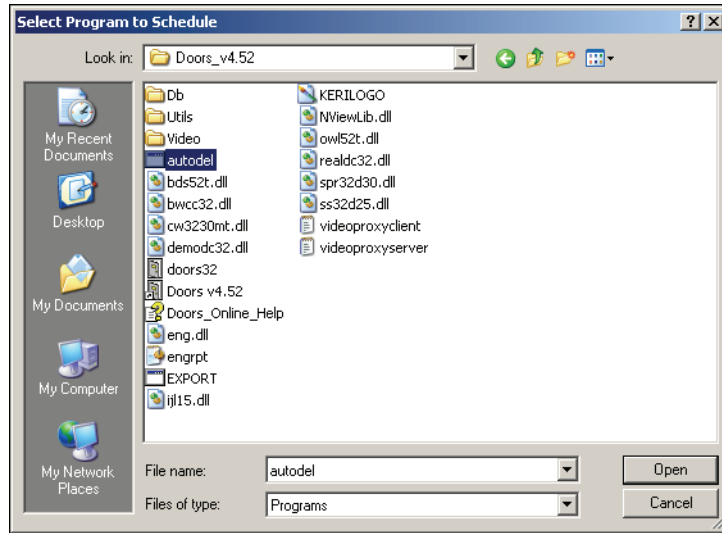

Figure 5-29: Select Autodel Program to Schedule
8. Select the current version of Doors installed on the PC, then click on the button (or double-click on the current version of Doors). The next window will open (see Figure 5-29 on page 33 of this section).